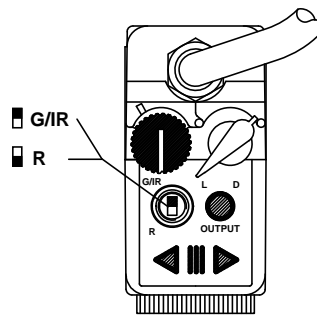

Figure 5
- Select the emission light type by means of the proper switch (fig.5): red or infrared for models TL80F-05X, green or red for all other models, according to table 2.
- Wählen Sie das entsprechende Senderlicht mittels Schiebeschalter (s.fig.5): rot oder infrarot für die Modelle TL80F-05X, grün oder rot für alle anderen Modelle gemäss Tabelle 2.
The TL80 unit gives the possibility of choosing red or green emission (red or infrared for optic fibre model -05X), to get the best resolution of the contrast between mark and background. To select the emission color, position the switch shown in fig.5, according to table 2. **The standard TL80 unit is supplied with the emission selected to green (for green/red emission models) or infrared (for red/infrared emission models).**